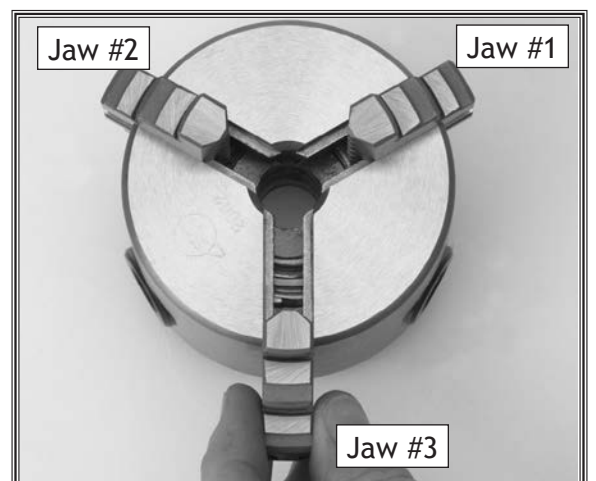

Figure 10. Lead thread coming in to view for jaw #3.
7. Moving in a counterclockwise direction, repeat Step 6 on jaw #2 and #3 (Figure 10) until all three jaws come together at the center of the chuck.